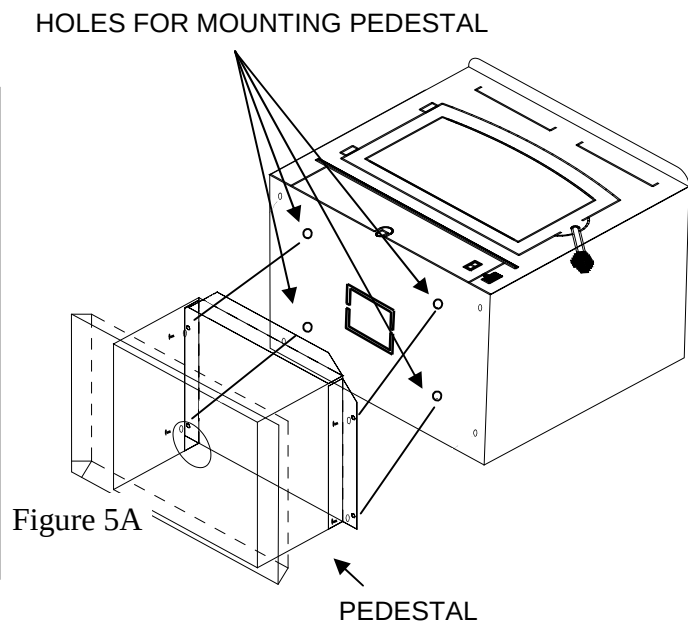

Figure 5A
6. **(Pedestal Kit):** If pedestal kit is being used and **(out side air is required for residential free standing installation (see page 25 Out Side Air Installation))**. Open freestanding kit and obtain stand. Place stand against bottom of heater (angle side to heater). Center stand front to rear and also center stand left and right. Mark screw locations on bottom of stove through outer holes of stand mounting angles. Set stand aside and drill four 7/32" holes in heater bottom. Then mount stand to bottom of heater with screws provided. (See Figure 5A).
7. Obtain four (4) 3/16" self-tapping screws and secure stand to heater.